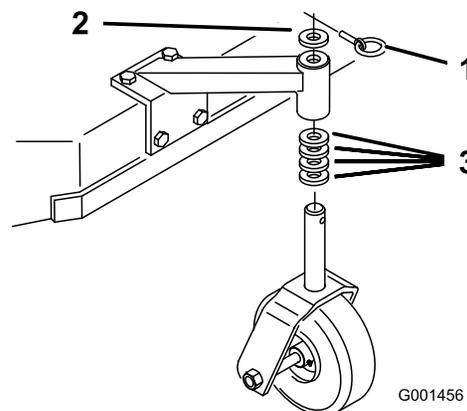

Figure 19
- Using the Height-of-Cut Chart, adjust the caster spacers to match with the axle hole selected (Figure 19).
2. Remove the latch pin, slide the caster from the support, and change the spacers (Figure 19).
3. Install the caster in the support and insert the v pin (Figure 19).